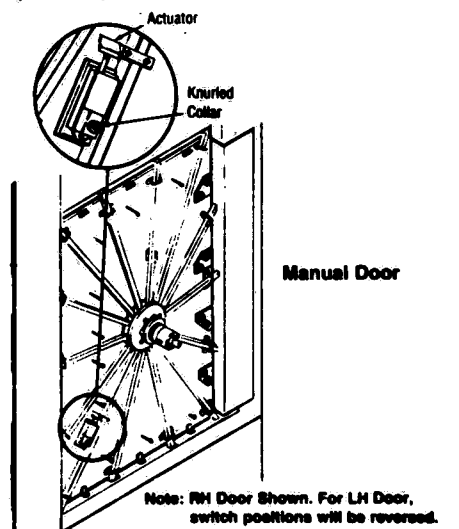

Figure 5-5. DOOR LOCKED LIMIT SWITCH.
2. If DOOR UNLOCKED light fails to go out, use the following procedure to adjust the door switch. See Figure 5-5.
Adjustment (Fig. 5-5)